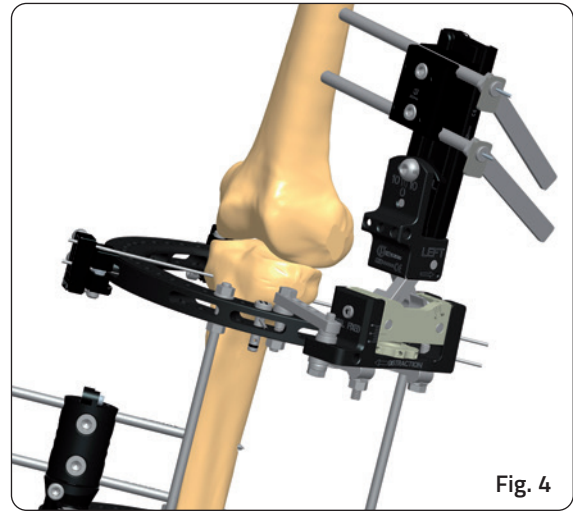

Fig. 4
- Remove the reference wire (Fig. 4).